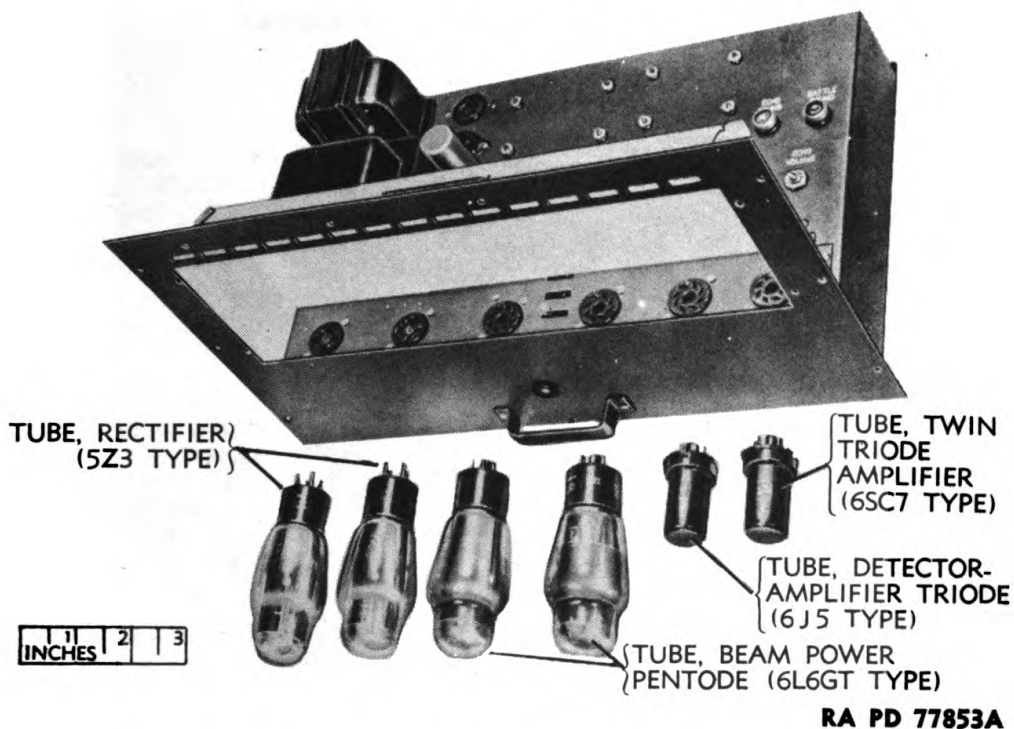

Figure 12 — Removal of Vacuum Tubes From Amplifier
(7) Unsolder the two leads to the fuse assembly (fig. 12); unscrew the hexagonal nut and the fuse can be removed.
(8) Pull the tubes (fig. 12) from their sockets.